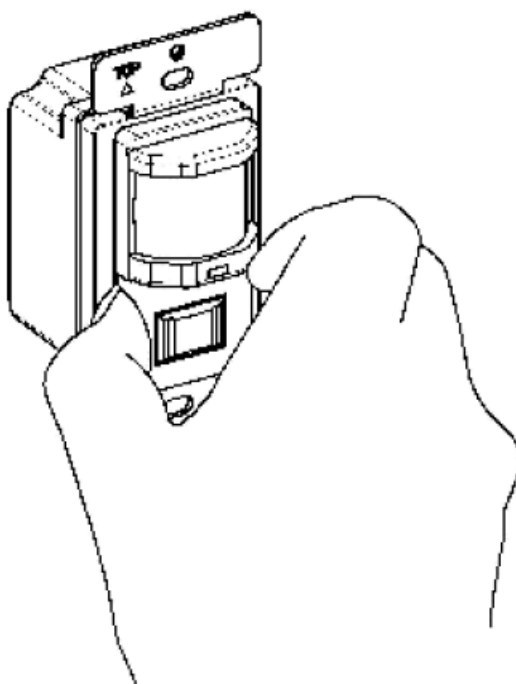

Figure 3
5. Remove the small cover plate. (Illustrated as Figure 3.)